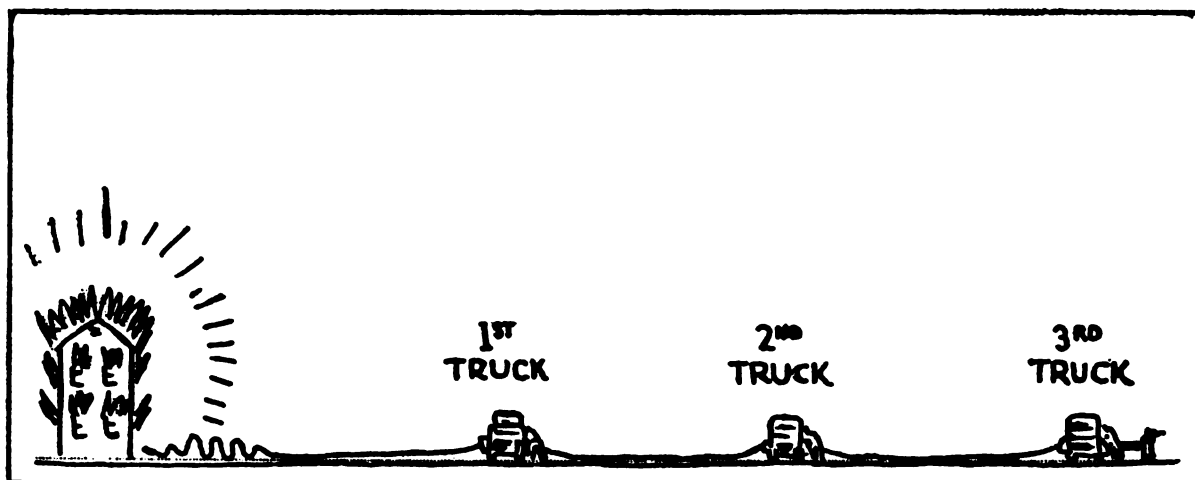

Figure 3.
- (3) The third truck to arrive will make a reverse hose lay, following the same procedures as outlined for the second truck. The pump operator will connect to the hydrant as prescribed for a normal reverse lay. See Figure 3.
- (4) What is the minimum pressure to be maintained on the intake side of the pump as indicated on the compound gauge?
- (5) What is the purpose of the relay operation?
- (6) Why is a relay operation similar to pumping from hydrant?
- (7) What means of communication can be used when Pumpers are working in relay operations?